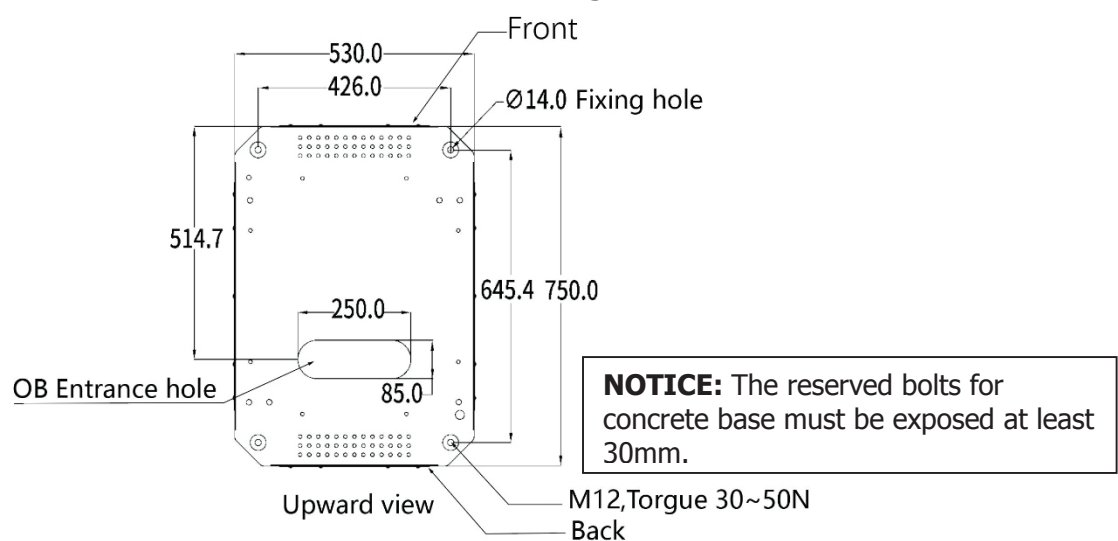

Figure 5.2
- When preparing the foundation base and cabling pay regard to positions of cable through holes and expansion bolts, which was dimensioned in Figure 5.2.